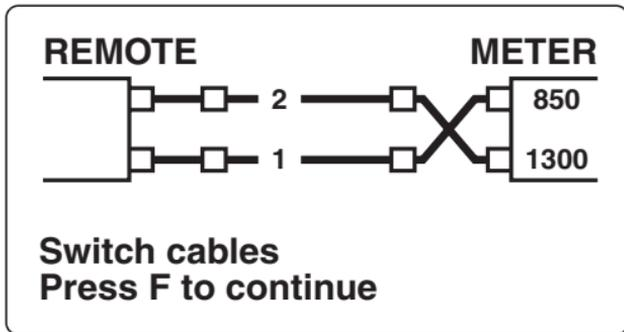

Figure Q-12. Switching cables.
8. Choose Test Cable from the main menu, choose the cable you just added to the database, and press the F button to test. The display will show you a diagram of the complete cable test (see below). After you test one set, it will tell you to reverse the cables at the the meter to complete the test procedure (see Figure Q-12).